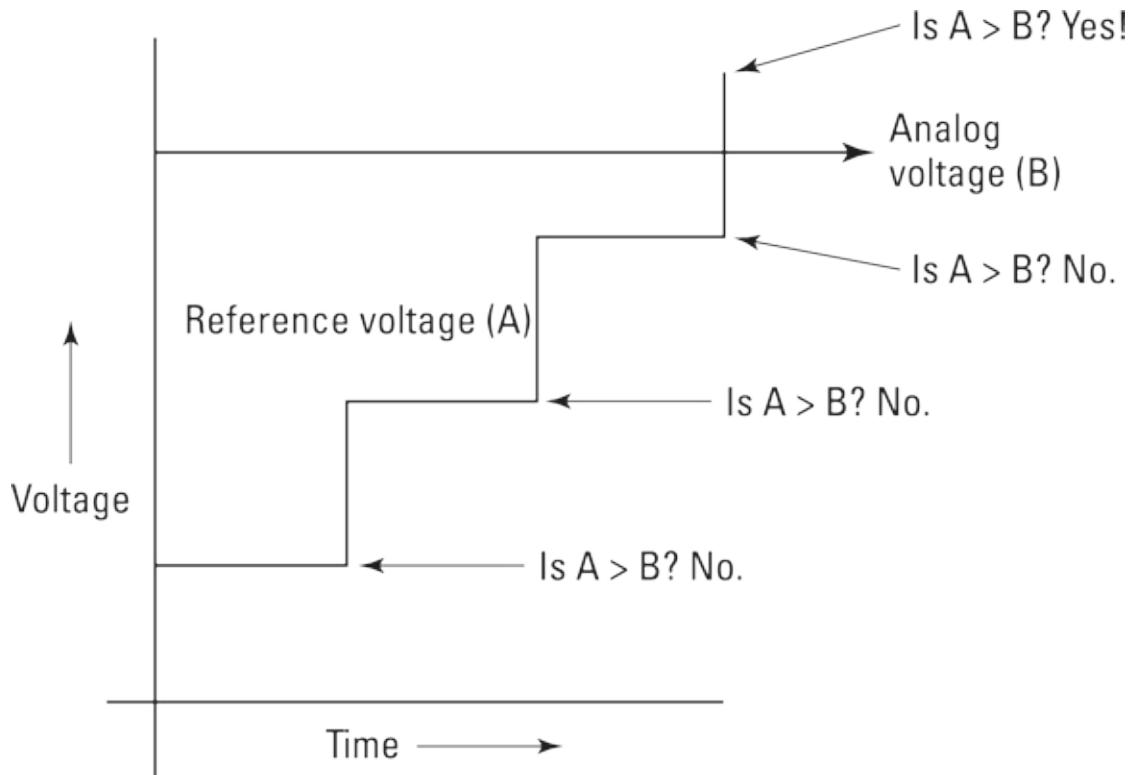

Figure 9-1: Use a comparator to compare a known voltage to an unknown voltage in order to determine the unknown voltage.
Figure 9-1 demonstrates how you can increase your known reference voltage and perform series of tests using a comparator. When you receive a positive result from the comparator, you know the analog voltage is somewhere between the current and previous levels.
The pulse width modulation (PWM) is the component that enables you to vary the voltage going into the comparator, which makes the method shown in Figure 9-1 possible on the Raspberry Pi. PWM works by regulating energy using a succession of pulses, known as the *pulse train*. By increasing or decreasing the pulse width, you can regulate energy flow. PWM is often used
The intersection of the analog voltage (A) and the reference voltage (B) is approximate (refer to Figure 9-1). You can get very close to the analog voltage reading, but you'll never get the *exact* reading. Analog-to-digital converters are usually described by their resolution, which represents the range of readings they're capable of producing. For example, an analog-to-digital converter that has a resolution of 8 bits can produce a range of 256 readings ($2^8 = 256$). A 10-bit converter has a resolution of 1,024 ($2^{10} = 1,024$). An analog signal is a range of electronic signals, so the higher the bit rating of the converter, the bigger the range of analog signals it can support.